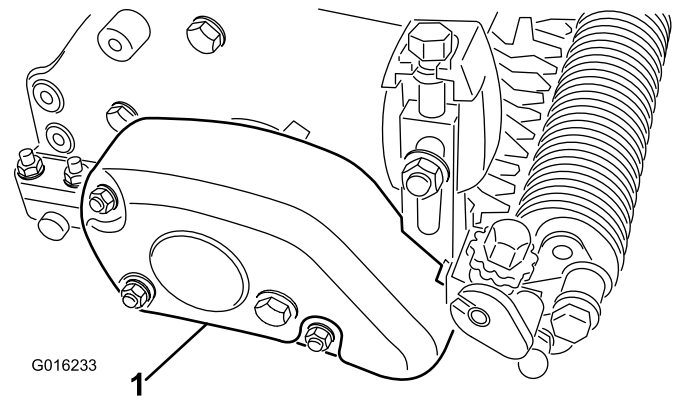

Figure 16
31. Mount the belt cover to the groomer housing assembly with 3 lock nuts (Figure 16).